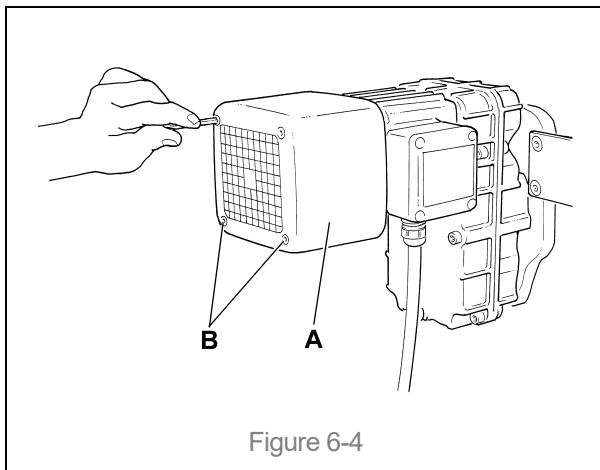

Figure 6-4
2) Remove the trolley Motor Cover (A) by unscrewing the 4 Screws (B) (see Figure 6-4).